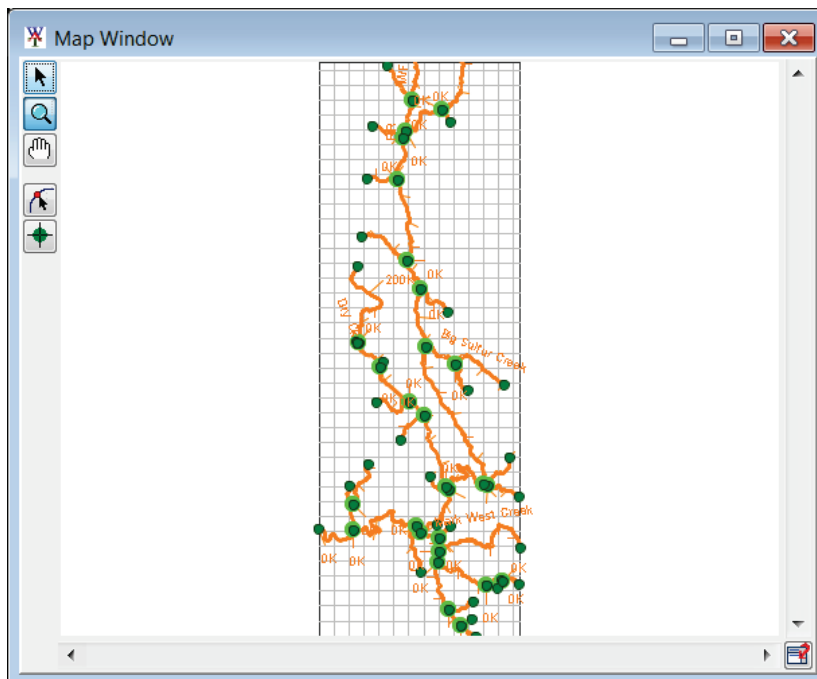
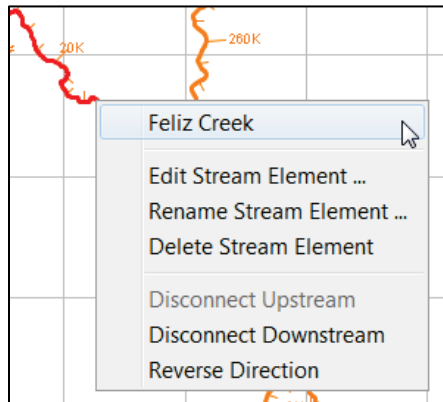
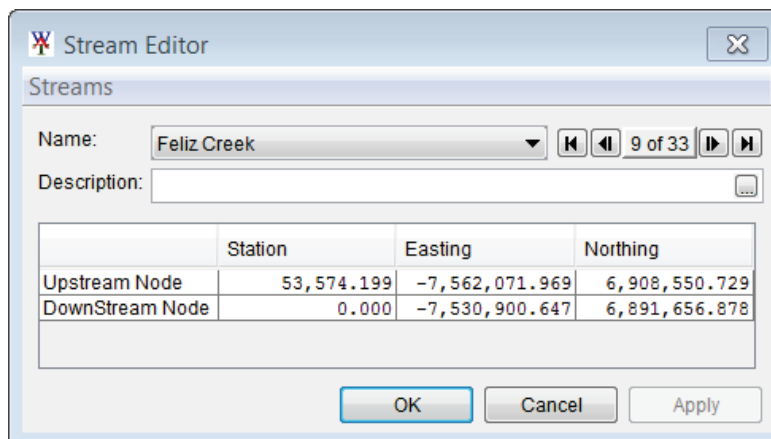

Figure F.15 Map Window – Stream Alignment
Figure F.16 Stream Shortcut Menu
Figure F.17 Stream Editor
From a map window (Figure F.15) a user can edit the individual components of a stream alignment – streams, stream nodes, and stream junctions. The following sections describes the editing capabilities provided for each stream component.
After establishing a stream alignment, the user can rename and edit the description of individual streams, delete individual streams, reverse the direction of a stream, disconnect a stream at both the upstream or downstream end, and view the stream stationing and coordinates of the stream nodes on a stream. All of these tasks are accomplished through the stream shortcut menu (Figure F.16). To access the stream shortcut menu, the **Stream Alignment Tool**  must be selected, and from the map window (Figure F.15), right-click on a stream.
1. Press the **Stream Alignment Tool** from the toolbar on the map window (Figure F.15), right-click on the stream element to edit, click **Edit Stream Element** from the stream shortcut menu (Figure F.16), the **Stream Editor** will open (Figure F.17).
4. Click **OK**, the **Stream Editor** will close (Figure F.17).
1. Press the **Stream Alignment Tool** from the toolbar on the map window (Figure F.15), right-click on the stream to rename, and click **Rename Stream Element** from the stream shortcut menu (Figure F.16).
1. Press the **Stream Alignment Tool** from the toolbar on the map window (Figure F.15), right-click on the stream to delete and click **Delete Stream Element** from the stream shortcut menu (Figure F.16).
1. Press the **Stream Alignment Tool** from the toolbar on the map window (Figure F.15), right-click on the stream to disconnect and either click **Disconnect Upstream** or **Disconnect Downstream** from the stream shortcut menu (Figure F.16).
1. Press the **Stream Alignment Tool** from the toolbar on the map window (Figure F.15), right-click on the stream you want to reverse and click **Reverse Direction** from the stream shortcut menu (Figure F.16).
1. Press the **Stream Alignment Tool** from the toolbar on the map window (Figure F.15), double-click on a stream that needs additional vertices, and the stream will turn red, with blue points that represent vertices.
1. Press the **Stream Alignment Tool** from the toolbar on the map window (Figure F.15); double-click on the stream where a vertex point needs to be moved. The selected stream will turn red, and the individual vertex points will be blue points.
1. Press the **Stream Alignment Tool** from the toolbar on the map window (Figure F.15); double-click on the stream where a vertex point needs to be deleted. The selected stream will turn red, and the individual vertex points will be blue points.
1. Press the **Stream Node Tool** from the toolbar on the map window (Figure F.15), right-click on the stream node to edit. From the stream node shortcut menu (Figure F.19), click **Edit Node**; the **Stream Node Editor** will open (Figure F.20).
1. Press the **Stream Node Tool** from the toolbar on the map window (Figure F.15), right-click on the stream junction that you want to edit. From the stream junction shortcut menu (Figure F.22), click **Edit Stream Junction**. The **Stream Junction Editor** will open (Figure F.23).
1. From the HEC-WAT main window (Figure F.15), from the **Maps Tab**, right-click on **Stream Alignment** in the tree. From the shortcut menu, click **Properties**.